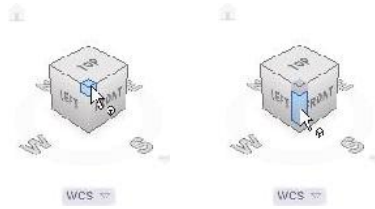

FIGURE 16.45: Clicking a ViewCube corner (left) and clicking a ViewCube edge (right)
- ▶ Clicking any corner (see the left image in Figure 16.45) changes the drawing area to display the objects from an isometric vantage point that is a combination of the three labeled faces.
- ▶ Clicking any of the edges (see the right image in Figure 16.45) changes the drawing area to display the objects rotated 45° from one of the adjacent orthographic views.